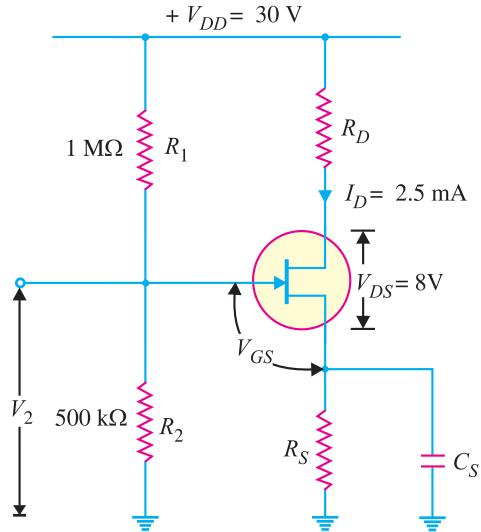

Fig. 19.28
**Solution.** Fig. 19.28 shows the conditions of the problem.